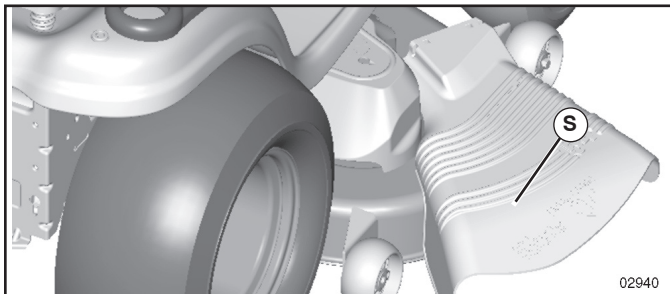

FIG. 13
CAUTION: Do not operate the mower without either the entire grass catcher, on mowers so equipped, or the deflector shield (S) in place. (See Fig. 13)